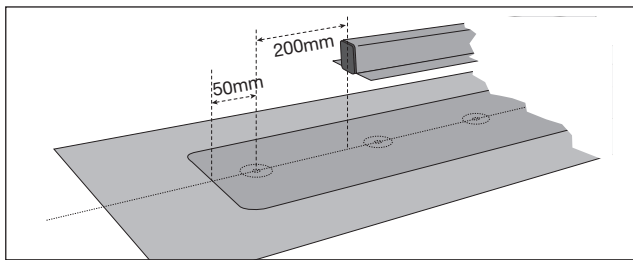

Figure 1
- An additional fastener must extend the row by a further 200mm from each end of the EJOBAR - **see figure 1.**